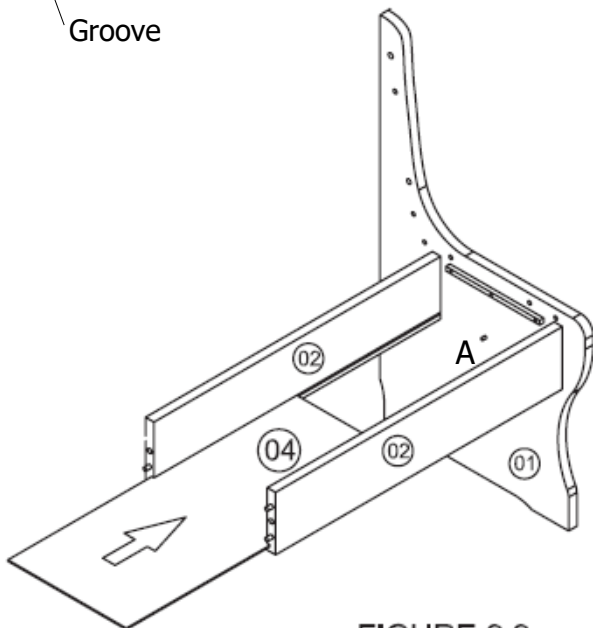

FIGURE 2.2
- d) Fit Storage Bottom (4) via groove on Front and Back Rail (2) as shown in Figure 2.2, and check that (4) sits on Wood Dowel (A) on (1)